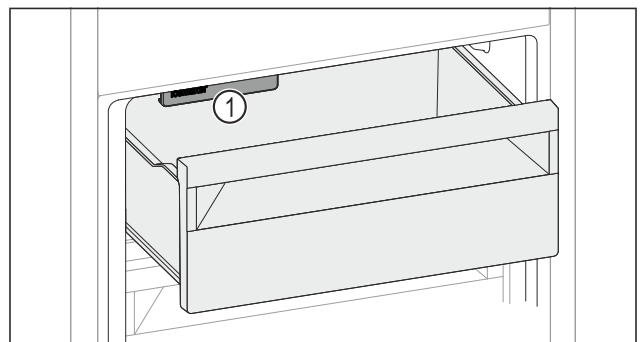

Fig. 266
- Watch out for the IceMaker Fig. 266 (1).